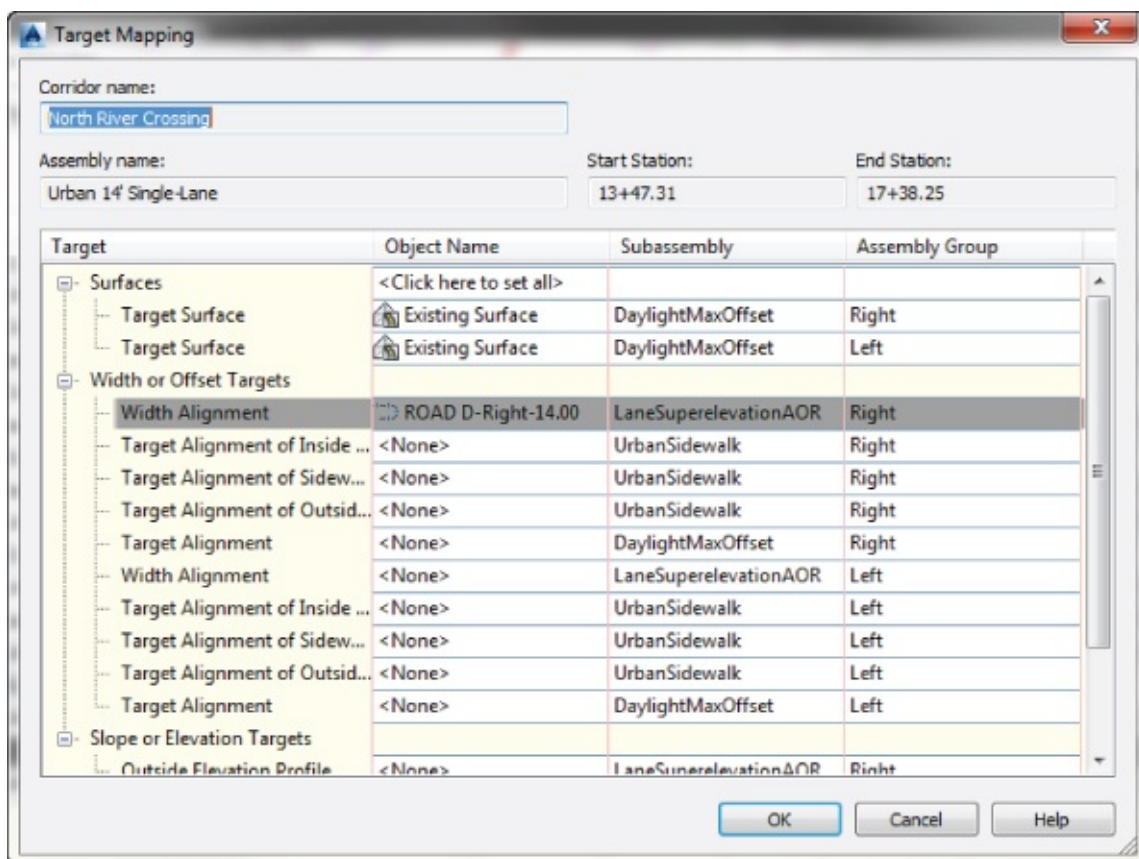

Figure 9.34 Targets set for surface and lane width for the right side
21. The Target Mapping dialog should now look like Figure 9.34.